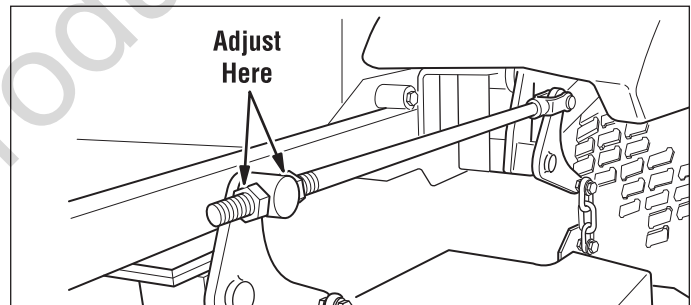

Figure 22. Adjust Lift Rod Timing
4. Refer to Figure 22. To adjust the lift rod timing, adjust the 5/8" hex nuts on either side of the front lift pivot until the measurements are equal. Repeat for other side.